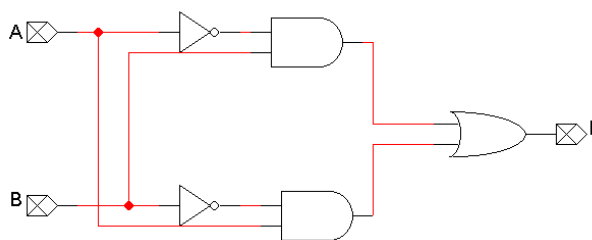

Figure 10-14
- The port connectors should also be given names. Make sure that these names are distinct from each other as well as from other names commonly found on other devices. Also, make sure that the names are attached to the ports by clicking the names and seeing if both the names and ports are highlighted together as shown in figure 10-14.